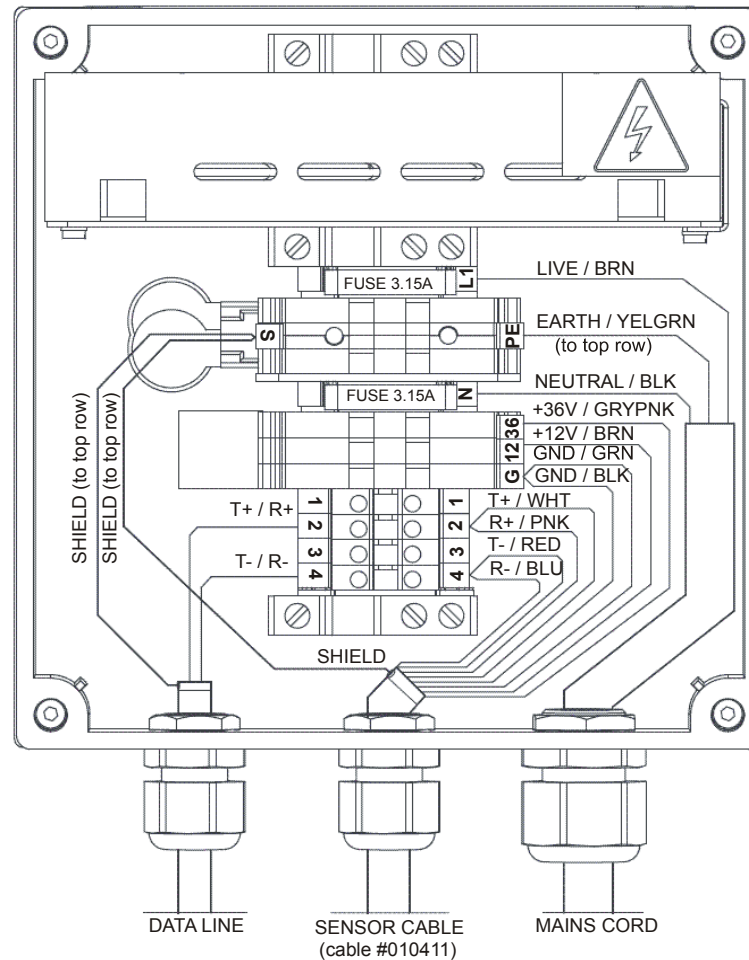

Figure 4 Wiring diagram with RS-485 cable
The detailed instructions for wiring the Mains cord, WS425 sensor cable, and Data line cable are in Figure 4, on the reverse.
There are spare screw terminals inside the WHP425 enclosure for signal wire chaining between the data line and sensor cable. Wiring for the WS425 various data transmit modes to the spare screw terminals (1, 2, 3, and 4) is also illustrated in Figure 4.
4. The outlet for the mains cable shall be near the unit and easily accessible. In case the original mains cable is too short for the application, replace it with another, carefully observing the L/ N/ PE markings on the screw terminals and in the diagram of Figure 4. Use the rightmost cable gland and lastly tighten it carefully.
5. Enter the sensor cable through the middlemost cable gland and make the cable wiring as instructed in Figure 4. Carefully tighten the sensor cable gland.
6. Enter the data line cable through the leftmost cable gland and make the cable wiring as instructed in Figure 4, depending on the data transmit mode of the WS425. Carefully tighten the data line cable gland.